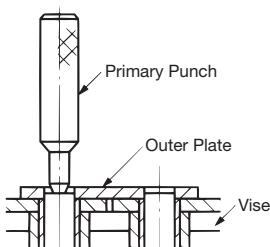

Figure 14: Tapping Pin with Primary Punch
1) Using a primary punch suitable for the chain size (refer to the Accessories section of the Tsubaki Drive Chain and Sprockets catalog), place the punch on the head of the pin that was ground down and strike with a hammer. Be sure to strike the pins on the outer link alternately to remove them evenly and at the same time. Strike the pins until they are just about to release from the outer plate (Figure 14).